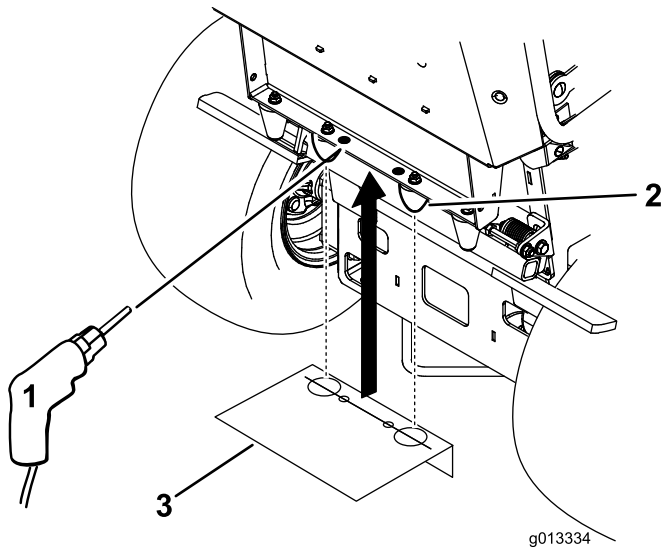

Figure 1
3. Place the template over the two inside rubber bumpers underneath the platform bar (Figure 1).
4. Make the location for the two holes and drill two 9/16 inch diameter holes into the platform bar (Figure 1).